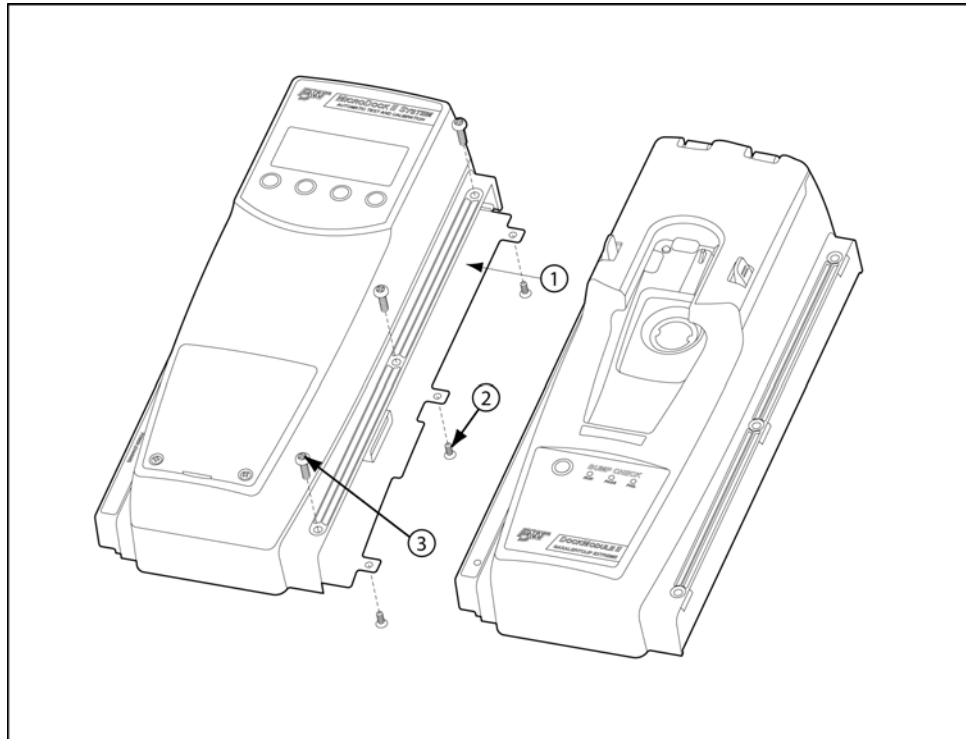

Figure 16. Detaching the GasAlertClip Extreme Module
To change the dipswitch setting on a GasAlertClip Extreme docking module refer to Tables 15 and 16, Figures 16 and 17, and complete the following:
3. Gently separate the docking module from the base station or other docking modules. Refer to Figure 16.